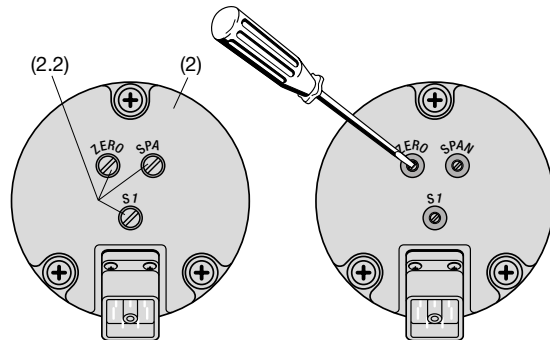
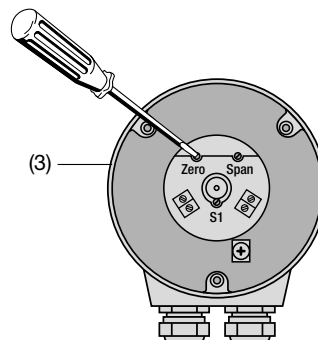

Fig. 9. Rear (2) of the transmitter with the adjustments "ZERO", "SPAN" and "S1".
Fig. 10. Rear (3) of the transmitter with the adjustments "ZERO", "SPAN" and "S1".
- ... with **plug-in connector** remove the ZERO/SPAN sealing screws (2.2) (Fig. 9, left).
Then adjust the "ZERO" potentiometer (Fig. 9, right or Fig. 10) using a watchmaker's screwdriver (2.3 mm diam.) so that the desired output current flows.
A switch is provided on angular transmitters with a measuring range > 150° for reversing the direction of rotation. It is marked S1 (Fig. 9 and Fig. 10).
... with **plug-in connector** remove the S1 sealing screw (2.2) (Fig. 9, left).